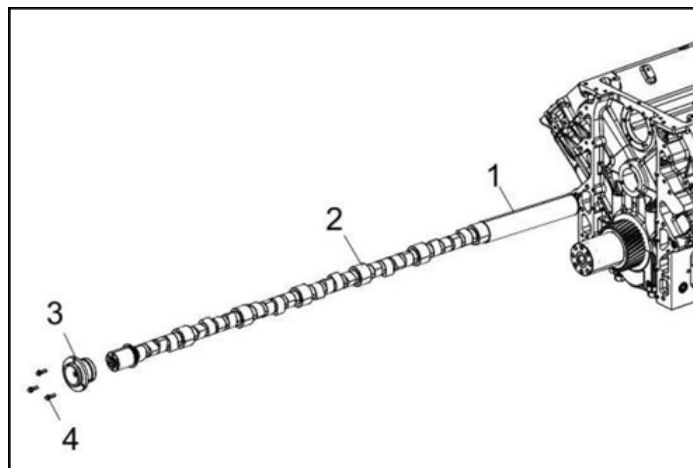

Figure 146.
- Use the camshaft installment tool (Figure 146, item 1) if necessary.
3. Install the camshaft (Figure 146, item 2), gradually rotating it as you insert it.
4. Apply a film of oil to the bearing bore. Fit the bearing (Figure 146, item 3), taking care to position the lubrication groove at the top at 12 o'clock.
5. Apply a film of Loctite 242 to the fasten bolts (Figure 146, item 4) and tighten to a torque of 23 ft/lbs.